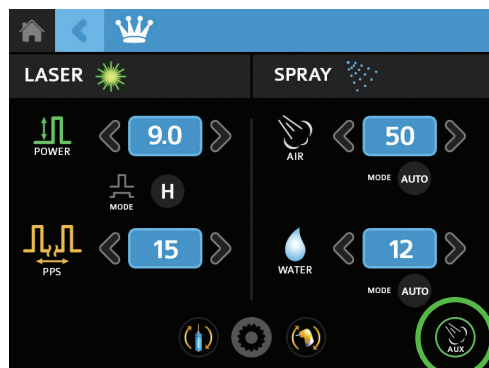

Figure 7E
E. Press the Auxiliary Air icon to initiate the Fractional function. (Figure 7E)